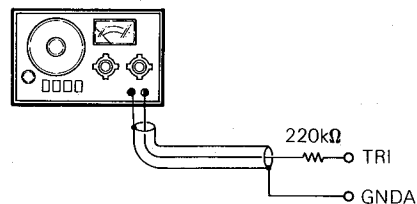
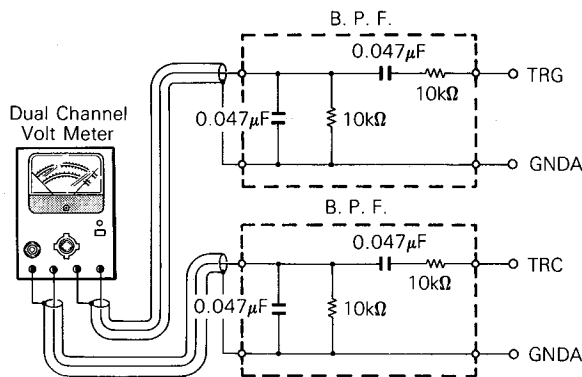

Fig. 24
Fig. 25
- (1) Connect the audio frequency oscillator with 220k ohm resistor to TRI and GNDA. (fig. 24)
- (2) Set the audio frequency oscillator for 800Hz, 20mV.
- (3) Connect AC voltmeter to B.P.F. (fig. 25)
- (4) For the measurements indicated below it is convenient to connect extending wires to TRG, TRC and GNDA.
- (5) Insert the Philips test disc #5 and place the unit in the play mode on track number 8.
- (6) Connect B.P.F. to test point TRG and GNDA and then to TRC and GNDA. Measure the output level at each point. (fig. 25)
- (7) Adjust VR106 so that the voltage difference between TRG and TRC becomes $14dB \pm 2dB$. ($TRG - TRC = 14dB$)
- (8) Check tracking offset in step 6-10 and repeat step 6-10 and step 6-11 if necessary.